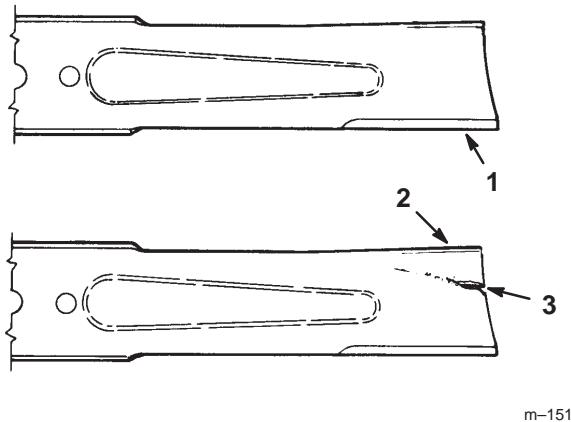

Figure 56
1. Inspect the cutting edges (Fig. 56). If the edges are not sharp or have nicks, remove and sharpen the blades. Refer to Sharpening the Blades on page 43.
2. Inspect the blades, especially the curved area (Fig. 56). If you notice any damage, wear, or a slot forming in this area (item 3 in Fig. 56), immediately install a new blade.